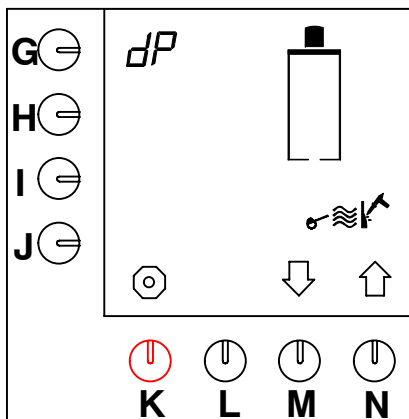

Fig. 18 Starting the descaling programme coffee-making system
- The descaling programme appears on the display (fig. 18).
- Hold programming key (G.) down until fig. 18 re-appears on the display.